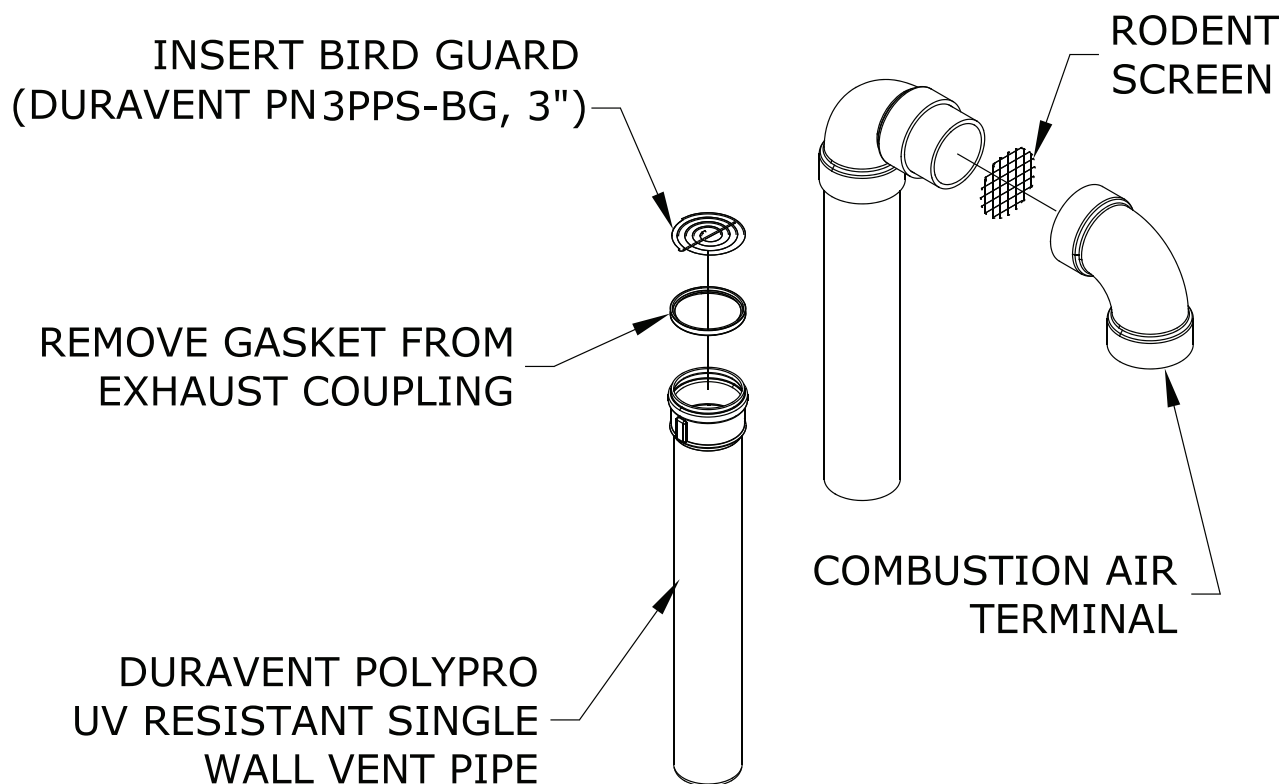

Figure 7.37: Installation of DuraVent PolyPro UV Resistant Single Wall Vertical Terminal
- a. See Figure 7.37 for the proper orientation of twin pipe vertical terminals.
- c. A 180° bend (or two 90° elbows) are installed on the top of the air intake pipe. If two 90° elbows are used, a rodent screen can be installed between them (Figure 7.37). If a 180° bend is used, a the rodent screen in the open side of the bend, using a ring made of PVC pipe. If desired, the termination fittings can be attached to the end of the intake pipes with field supplied stainless steel screws so that they can be later removed for cleaning and inspection. If this is done, drill a clearance hole in these fittings and a tap hole in the end of the intake pipes to accept these screws.